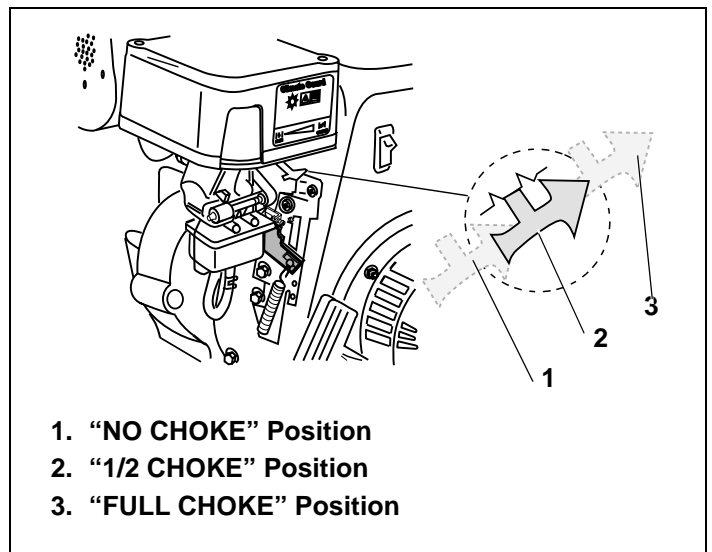

Figure 24. Choke Control Option "A"
4. Set choke control to "FULL CHOKE" position (see equipment manufacturer's instructions). See Figures 24 thru 26. Afterward, continue reading instructions below.
- a. Momentarily move choke control to "1/2 CHOKE" position until engine runs smoothly. See Figures 24 thru 26.